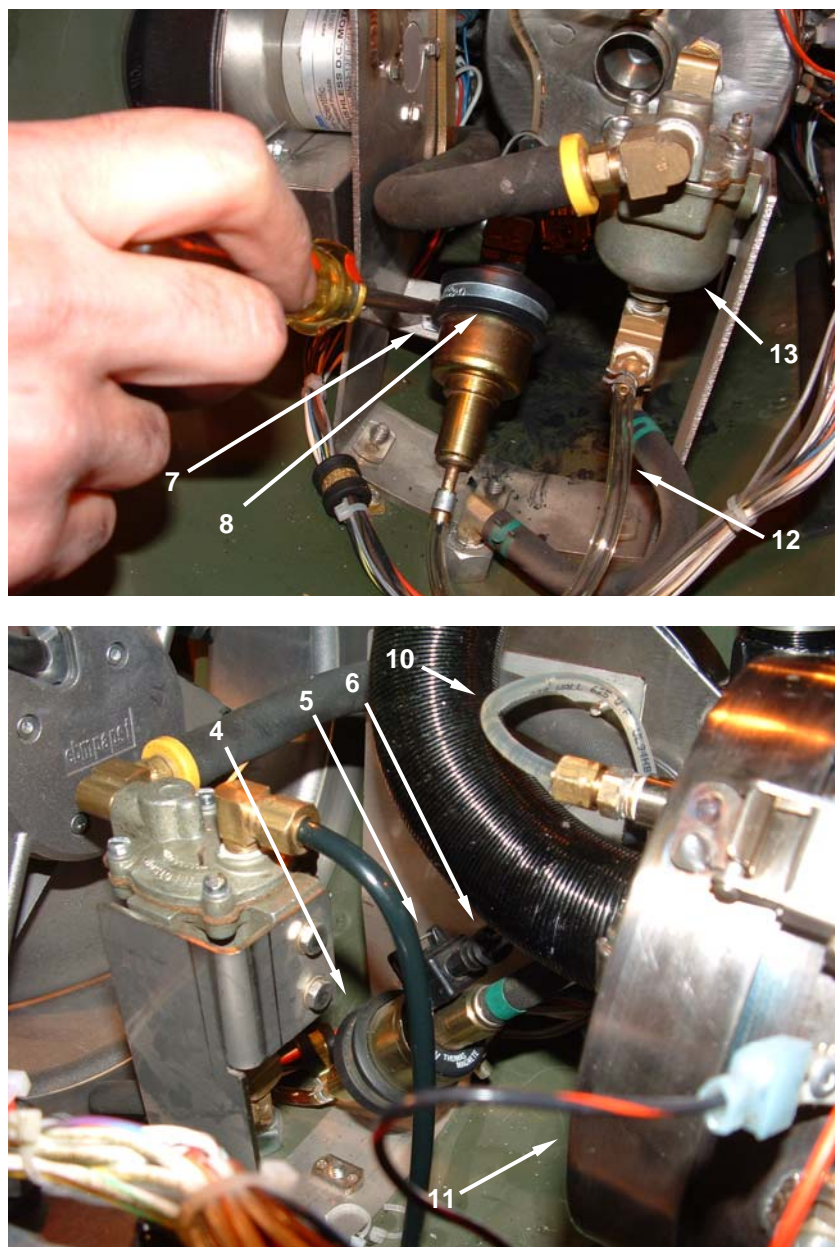

Figure 4. Replace Fuel Pump Assembly.
17. Position the fuel pump bracket (**Figure 4, Item 8**) over the hole in the lower housing assembly (**Figure 4, Item 9**) and install the screw (**Figure 4, Item 7**). Tighten securely.
18. Connect the fuel pump inlet hose (**Figure 4, Item 12**) to the float assembly (**Figure 4, Item 13**).
19. Connect the fuel pump outlet hose (**Figure 4, Item 10**) to the compression fitting connection on the burner (**Figure 4, Item 11**). Tighten the compression fitting ¼ turn past hand tight.
20. Reconnect the electrical connector (**Figure 4, Item 6**).